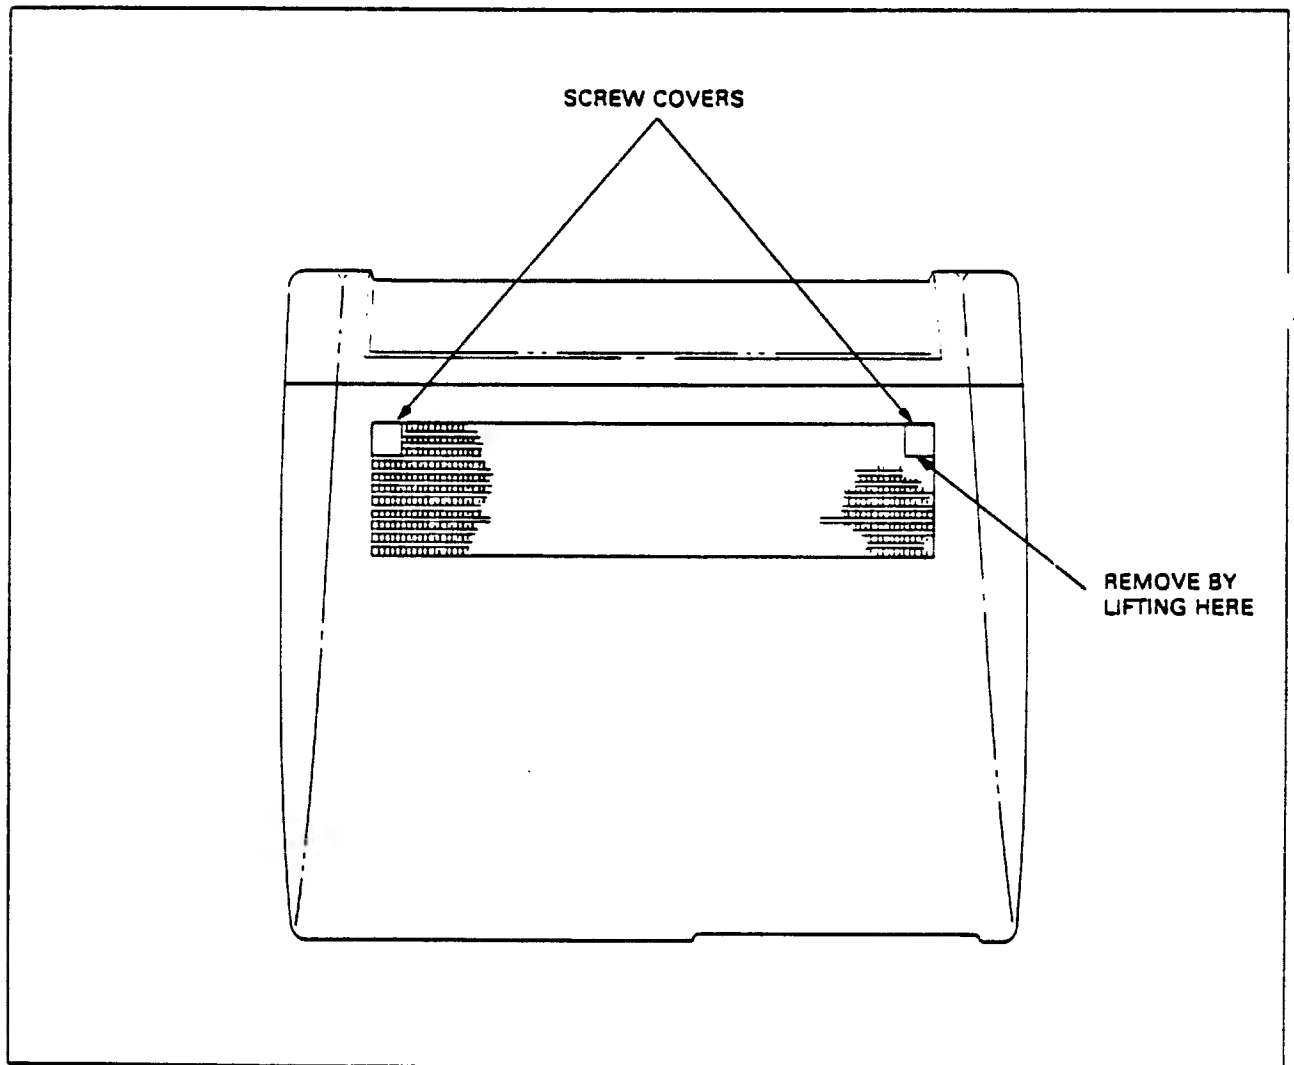

Figure 5-2. Rear Housing
- Step 1: Remove the two screw covers from the top of the unit (refer to figure 5-2 for locations). These covers must be removed by lifting upwards from the back or the retaining tabs will be broken off.